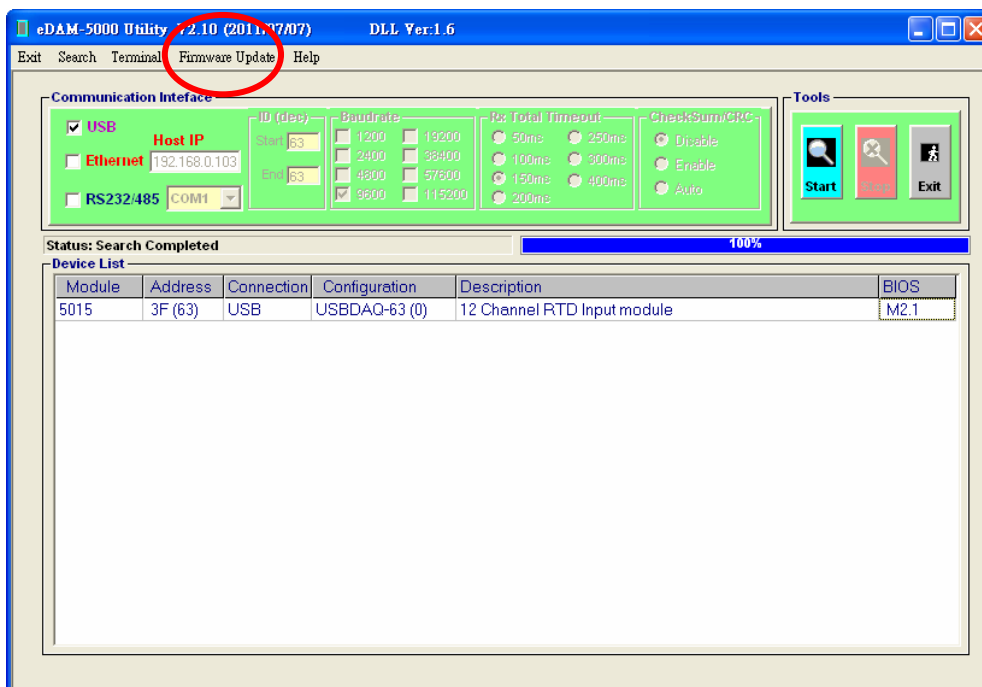

Figure -4
4. Click "Firmware Update" in the menu bar (see Figure -4)